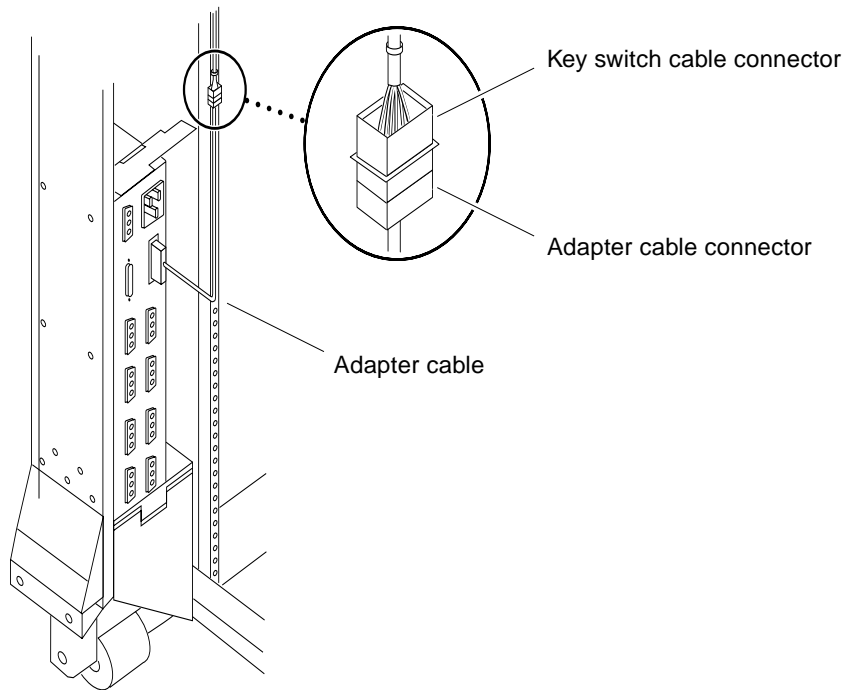

FIGURE 4-2 Key Switch Cable Connection
- a. **Loosen the two captive screws (FIGURE 4-2) at the bottom of the panel.**
3. **Disconnect the key switch cable connector (FIGURE 4-2) from the adapter cable connector.**
4. **Connect the key switch cable connector to the adapter-cable connector near the rear of the power sequencer (FIGURE 4-2).**